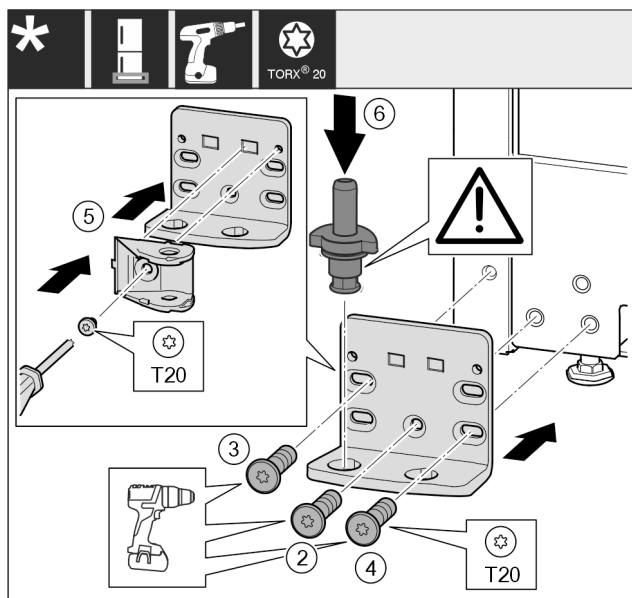

Fig. 49 *
- Place the swap bearing block on the other side and use a screwdriver to screw it on. Start with the screw Fig. 49 (2) at the bottom in the middle.*
- Tighten screw Fig. 49 (3) and screw Fig. 49 (4).*
- Turn the closing damper connection Fig. 49 (5) by 180°. Use screwdriver to screw it onto the other side of the swap bearing block.*
- Insert the bearing bolt Fig. 49 (6) completely. Ensure that the latching cam is pointing towards the rear.*